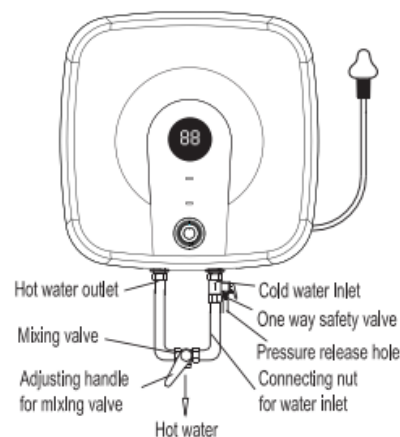

Fig.3
3. In order to avoid leakage when connecting the pipelines, the rubber seal gaskets provided with the machine must be added at the end of the threads (see Fig.3).